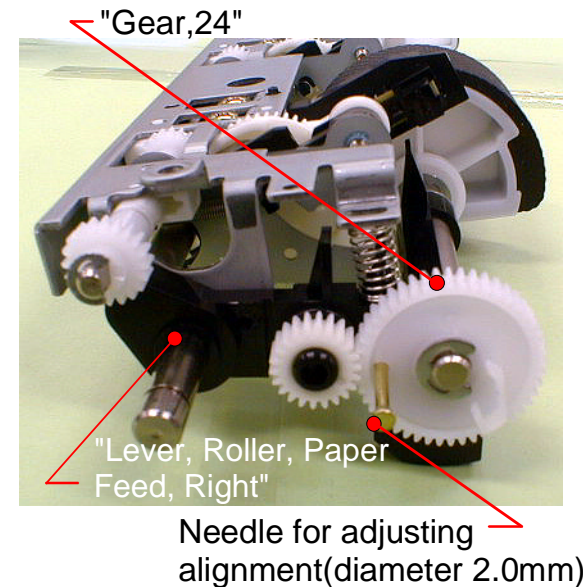

Figure 4-173. Fixing "Gear,24"
41. Insert a needle(diameter 2.0mm) for alignment into "Gear,24", and let the needle pierce to the hole on the "Lever, Roller, Paper Feed, Right", and fix "Gear,24". (See figure 4-173)